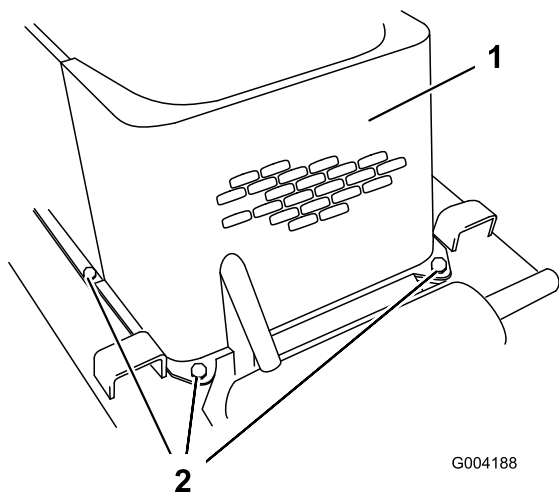

Figure 26
5. Remove the 4 bolts securing the front screen to the traction unit frame (Figure 26).